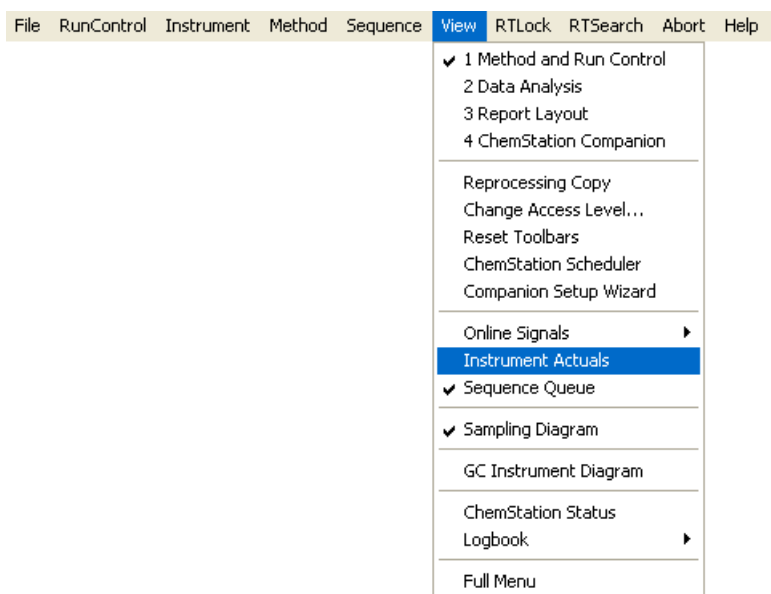

Figure 24 Accessing Instrument Actuals
- 1 To view **Instrument Actuals** for the GC and HS, select **View > Instrument Actuals** from the data system top menu (Figure 24).